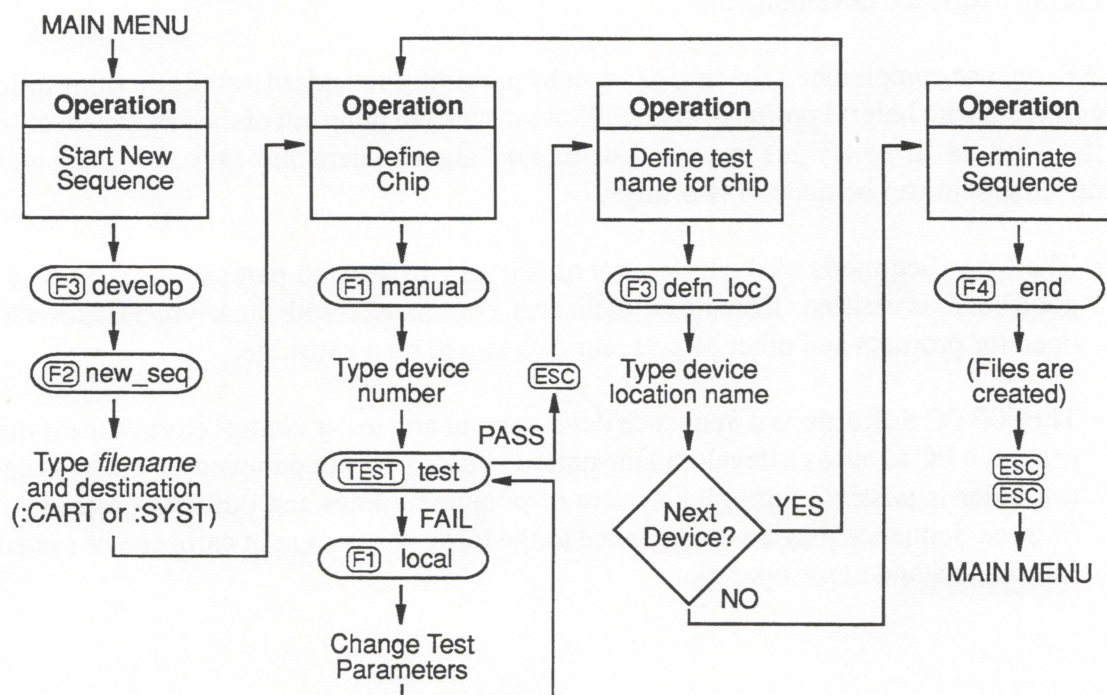

Figure 62
Proceed with the keystrokes shown in figure 62 to start a new Sequence, called TEST1, residing in System RAM. From the Main screen press (F3) (develop), (F2) (new_seq), (T), (E), (S), (T), (1), (F5) (:SYST), (ENTER).